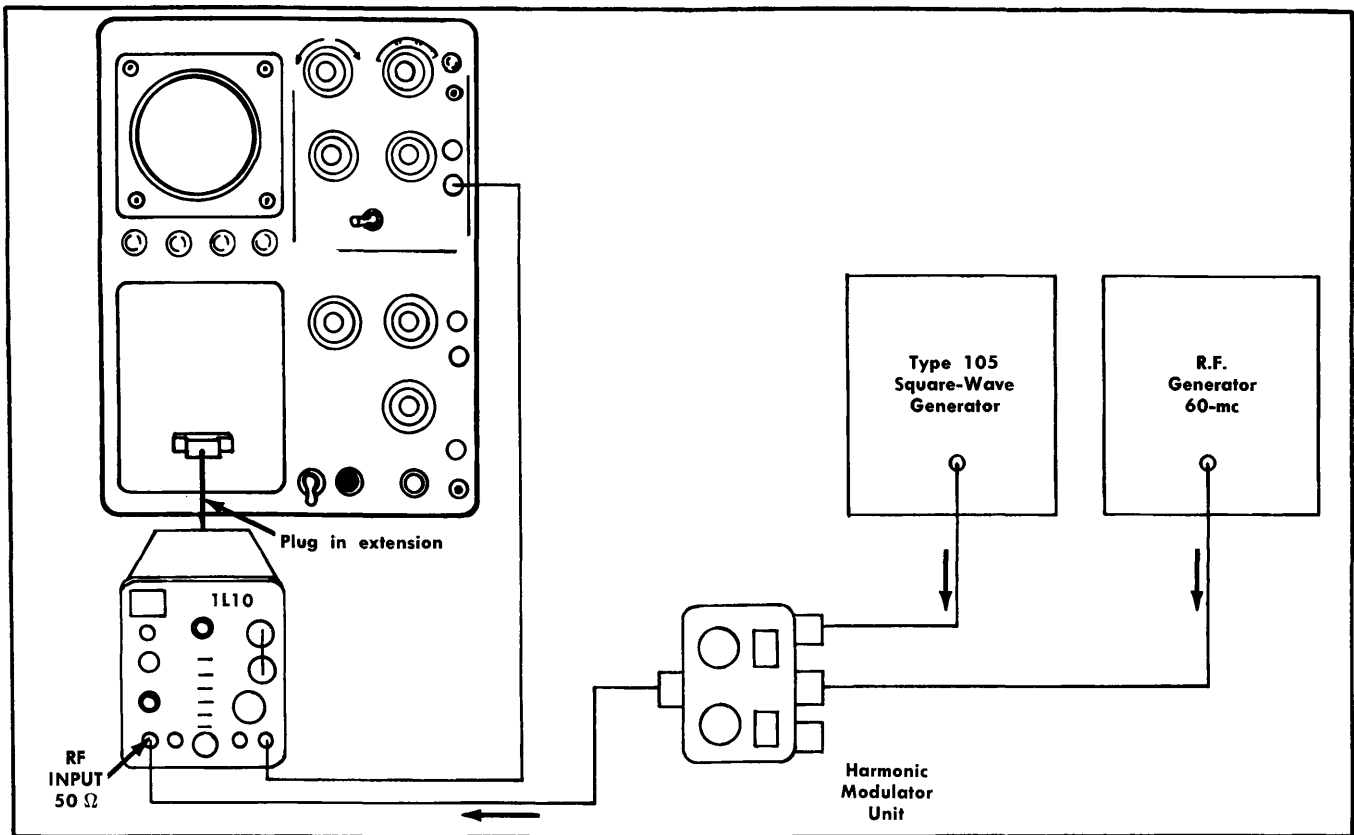

Fig. 4-24. Equipment setup for gain compensation adjustment.
a. Connect the equipment as shown in Fig. 4-24.